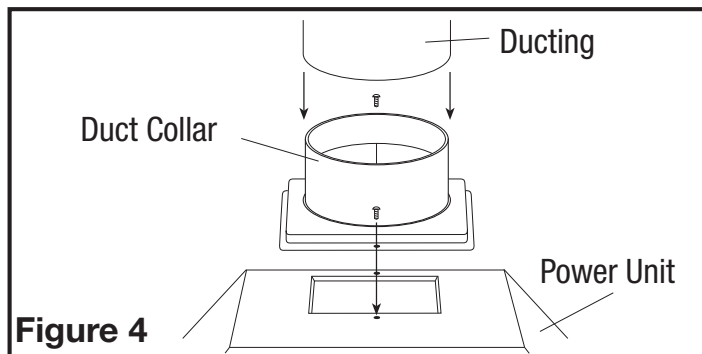

Figure 4
1. Install the included duct collar to the hood with two of the provided #6 blunt tip screws (**Figure 4**).
2. When there is access to the top of the unit, connect the ducting to the duct collar and secure in place using tape to seal all joints (**Figure 4**).